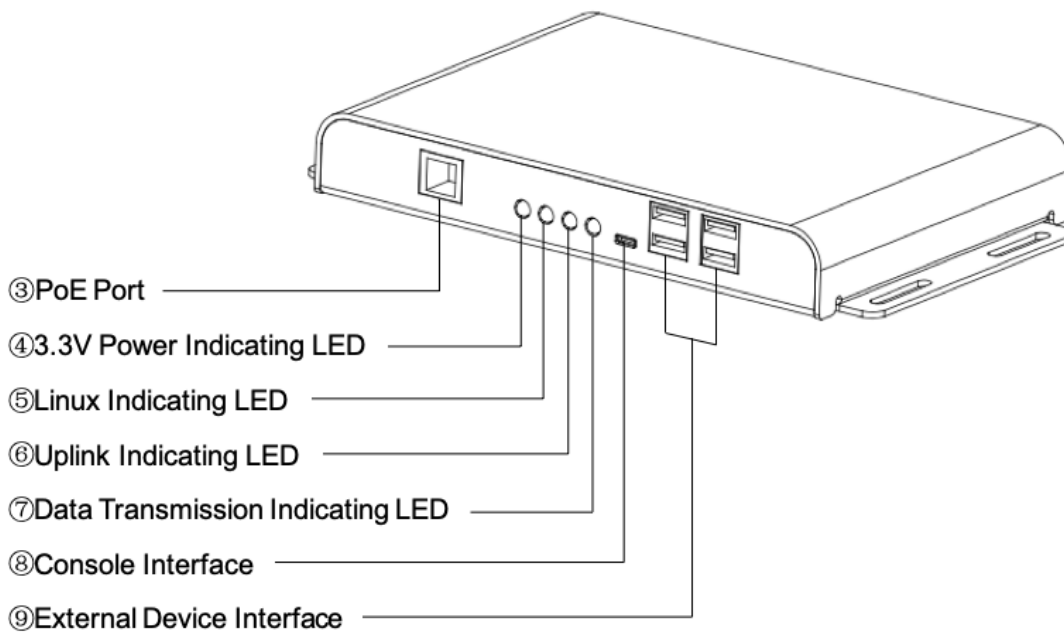

FIG. 1-3-2 Product appearance (back)
Please connect the HID device via USB Type-A interface to Wired BOX-Type (see FIG. 1-3-2\(9\)), such as barcode scanner. The total power output from the four USB ports of the Wired BOX-Type is 2500mW(5V/500mA). If you wish to connect a device that requires more power than this, please connect the Wired BOX-Type and the relevant device via a self-powered USB hub.
Please connect the printer to Wired BOX-Type via USB Type-A interface (see FIG. 1-3-2\(9\)) and connect the printer to power supply. The printer needs to be compatible with ESC/POS.
1. Please connect the PoE power supply and Wired BOX-Type with an Ethernet cable (RJ45 interface, see FIG. 1-3-2③).